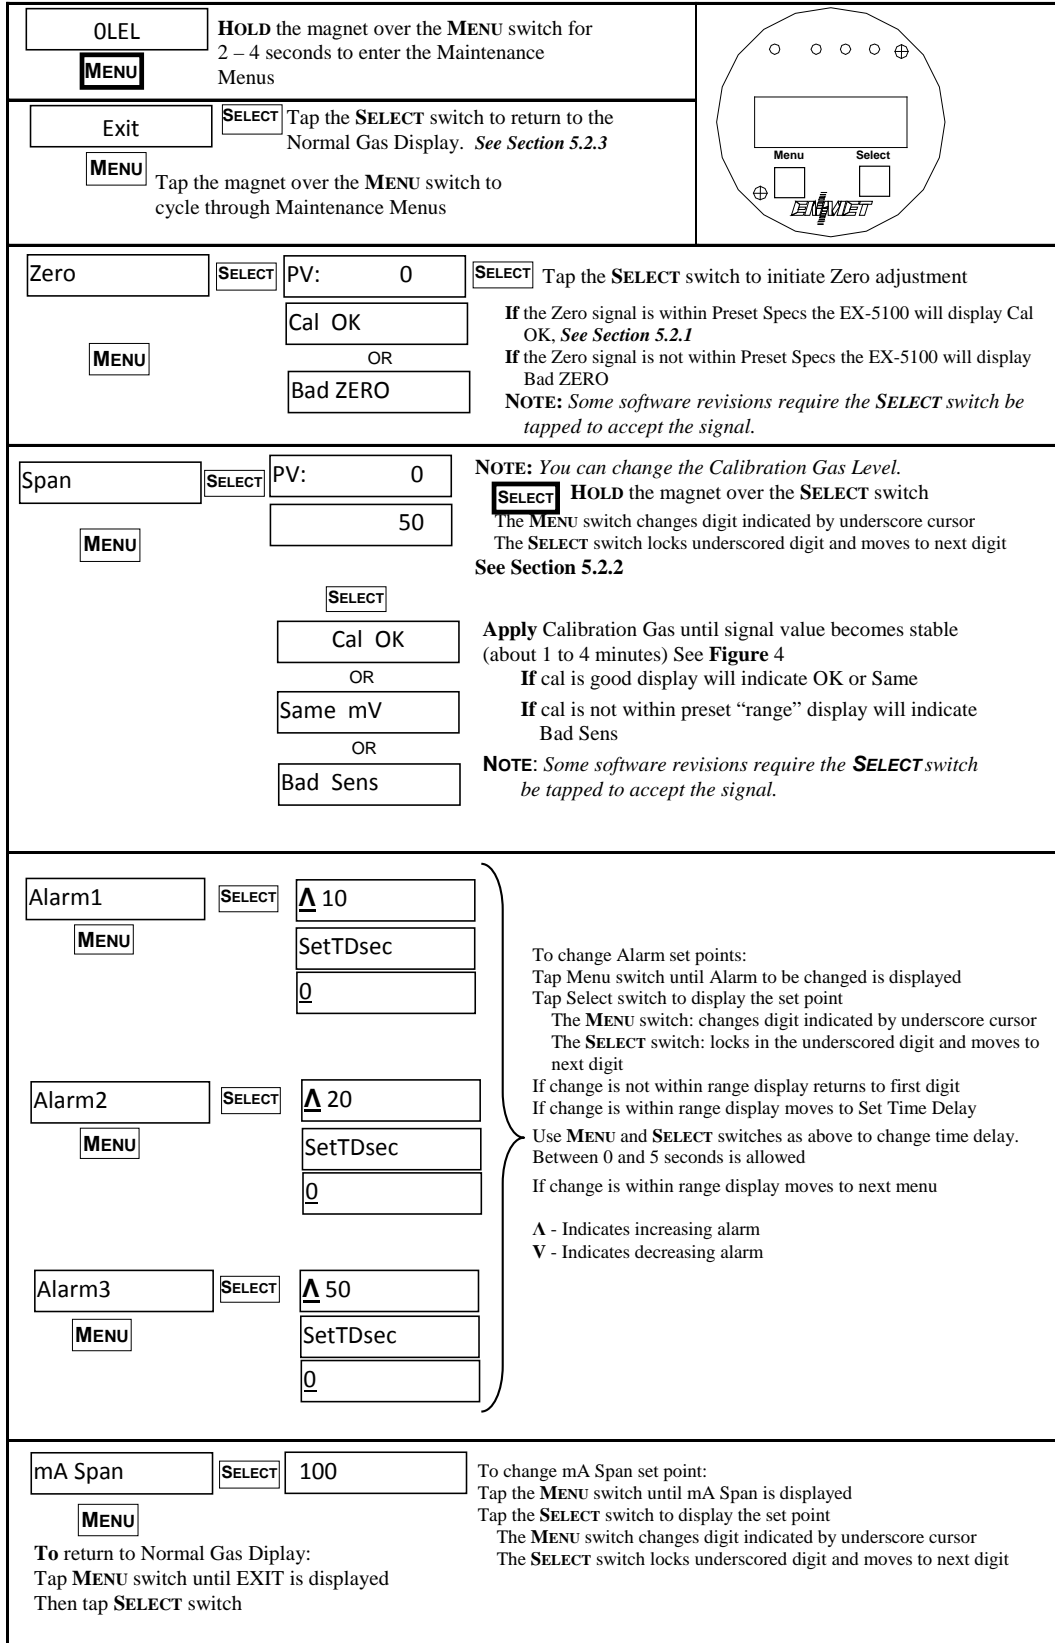

Figure 5: EX-5100 Maintenance Menu Flow Chart
**Table 1** indicates the maintenance menu sequence see **Figure 5** for a detailed maintenance menu flow chart.
Enter the maintenance menu by placing the magnet over the **MENU** switch for 2 to 4 seconds. See **Figure 5, EX-5100** Maintenance Menu flow chart.
Enter the maintenance menu. See **Figure 5, EX-5100** Maintenance Menu flow chart.
The chart below indicates the maintenance menu sequence see **Figure 5** for a detailed maintenance menu flow chart.